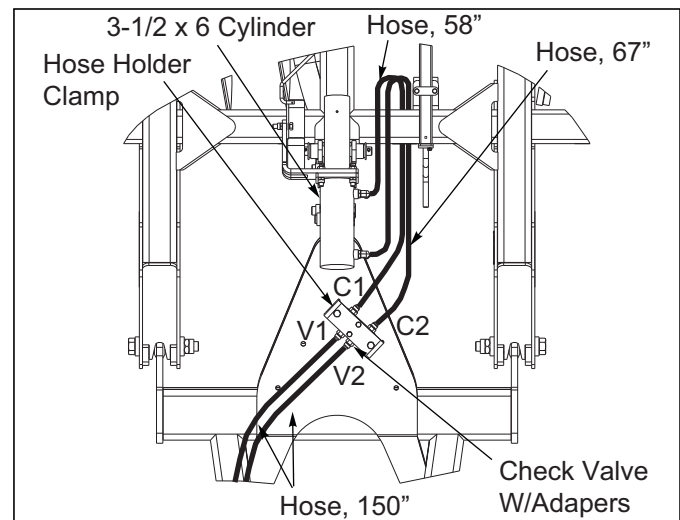

Figure 3-6: Check Valve Placement
15. Install check valve to hose clamp holder on hitch using 3/8 x 2 bolts and 3/8 lock nuts. Note that ports C1/C2 go to the 3-1/2 x 6 cylinder and ports V1/V2 go to the tractor See Figure 3-6.
17. Attach (2) 150" hoses from the check valve to the tractor. Install 3/4" male couplers on the ends of hoses